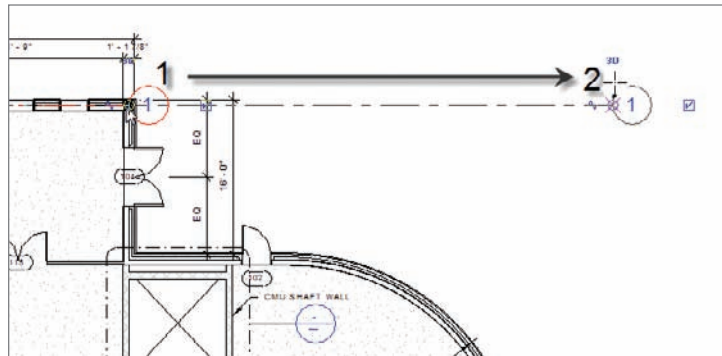

FIGURE 8.4 Dragging the column bubble to the right
7. Pick that round blue grip, and drag the column bubble to the right about 15'-0", as shown in Figure 8.4.